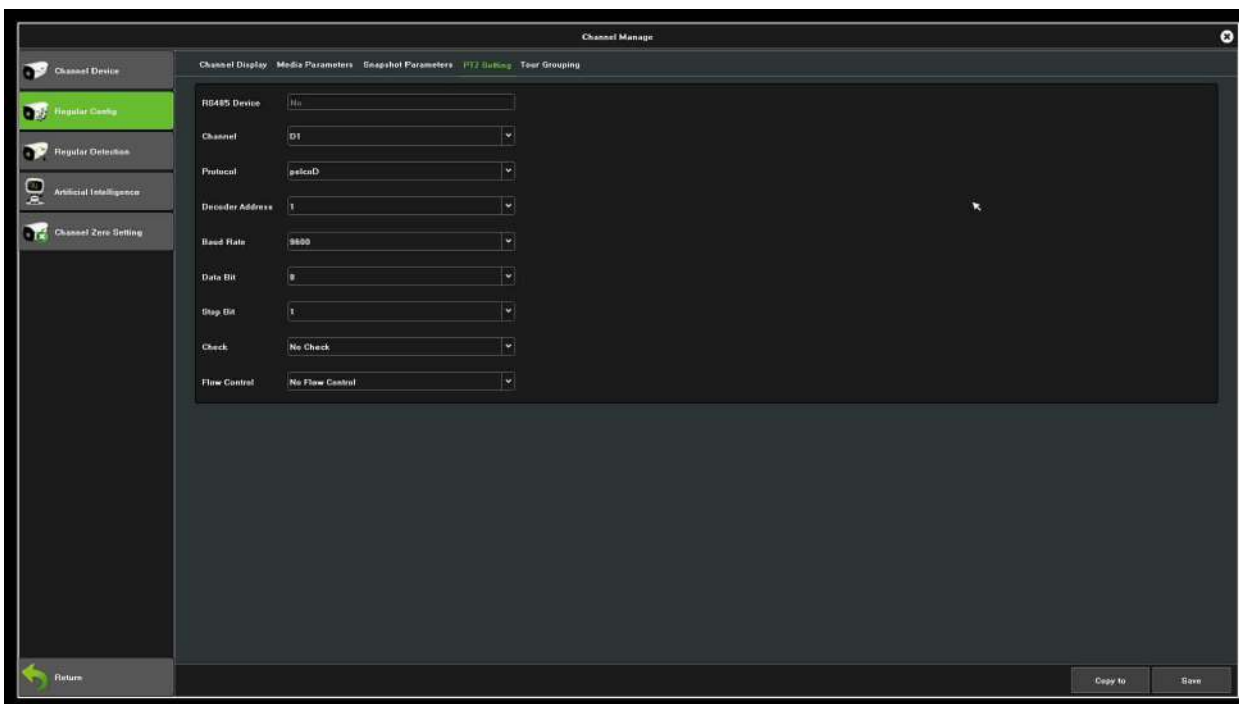

Figure 7.8 PTZ General Setting Interface
1. Enter the PTZ Setting interface, as shown in Figure 7.8.